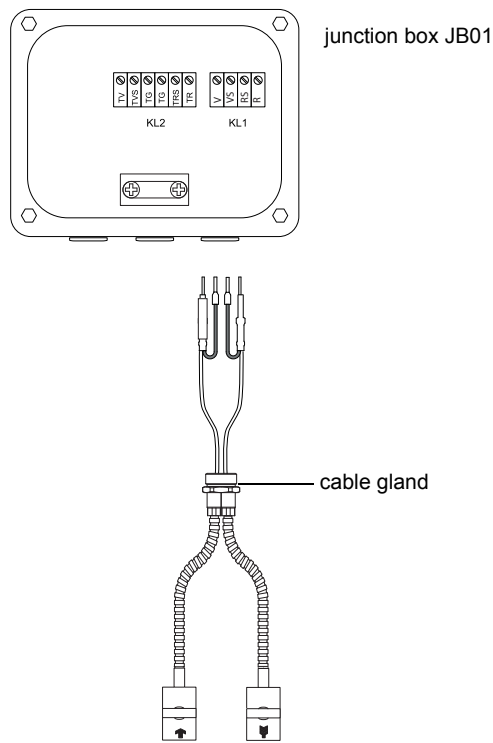

Fig. 7.10: Transducer cable with stainless steel conduit and stripped cable ends
- Remove the right blind plug for the connection of the transducer cable (see Fig. 7.10).
- Connect the transducer cable to the terminals of the junction box (see Fig. 7.10 and Tab. 7.5).